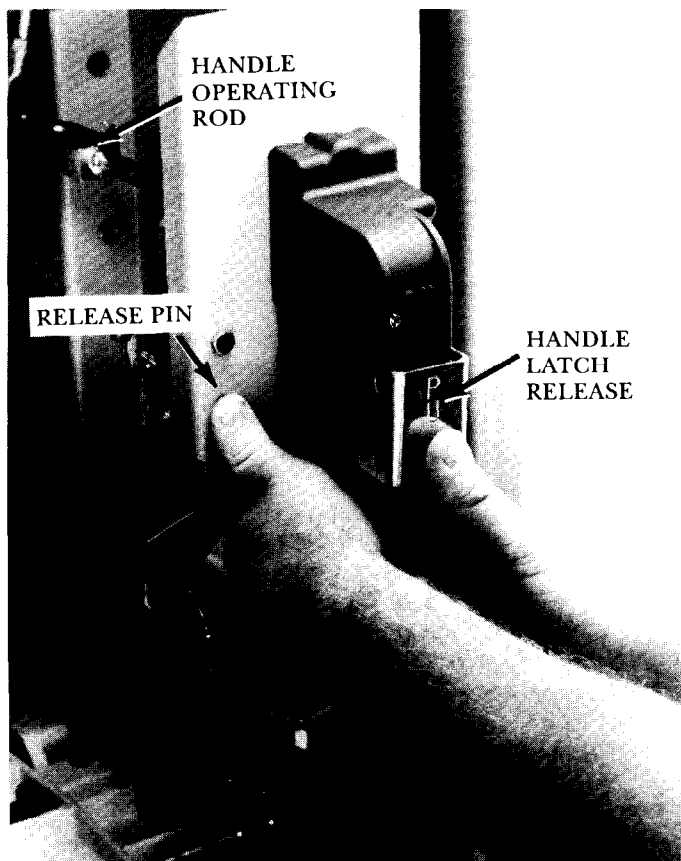

Figure 39. Isolation switch handle operation during equipment checkout
With the high-voltage door open, push in the door operated release pin as shown in Figure 39. This is not a normal operation and should only be used for equipment check out or servicing.
Push in the handle latch release (See Figure 39) and move the handle up to the full "ON" position (i.e. the handle latch release pops back out) by rotating the handle up with a rapid, positive motion.
Push in the handle latch release (See Figure 39) and move the handle down to the full "OFF" position (i.e. the handle latch release pops back out) by rotating the handle down with a rapid, positive motion.
- B. WITH THE DOOR OPEN, CLOSE THE ISOLATION SWITCH AS SHOWN IN FIG. 39
Push in the handle latch release shown in Figure 39 and begin to pull up on the handle. With the handle in the intermediate position, push down on the top moving armature of the contactor. The mechanical interlock mechanism should prevent the armature from fully closing on the contactor.
WARNING: Before making any adjustments, be sure that equipment is de-energized, the contactor is in the full "OPEN" position and the isolation switch handle is in an intermediate position with the handle latch release (Figure 39) fully depressed.